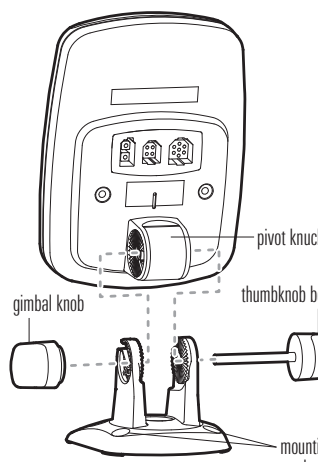

Figure 7
- Insert the thumbknob bolt through the pivot knuckle on the control head (Figure 7).